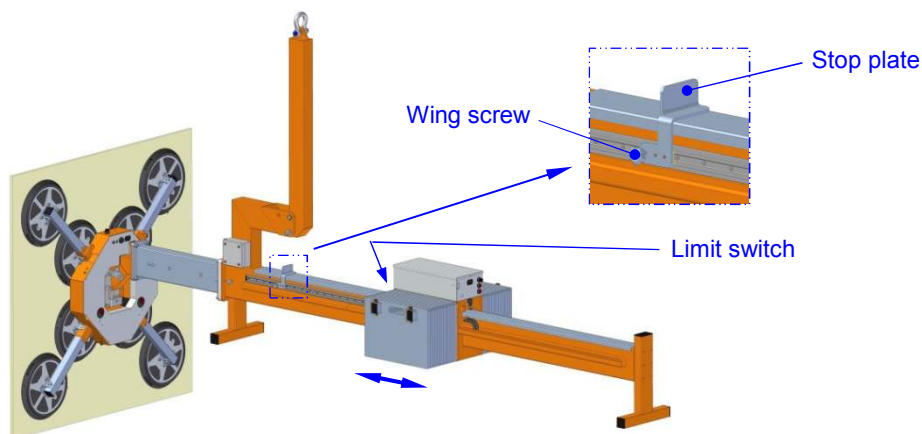

Fig. 9: Handling of glass and façade elements
- ⇒ Loosen the wing screw of the stop plate and push the stop plate onto the travelling cage until the limit switch is triggered. Retighten the wing screw (s. fig. 9).